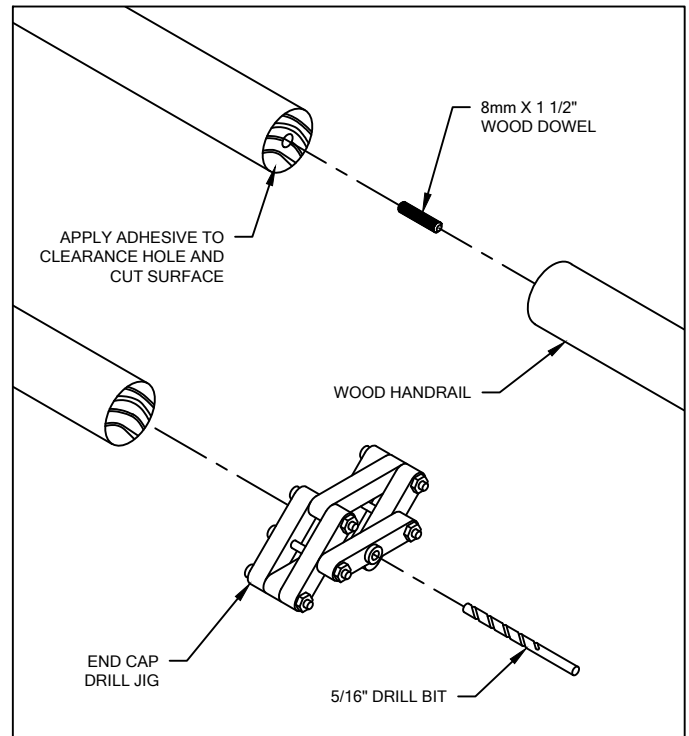

FIGURE 3.
1. TO ENSURE PROPER ALIGNMENT OF HANDRAIL SPLICE, USE THE END CAP DRILL JIG TO DRILL A CLEARANCE HOLE FOR SPLICE ASSEMBLY IN EACH END OF THE HANDRAIL. (SEE FIGURE 3)
2. ASSEMBLE HANDRAIL SPLICE WITH WOOD DOWEL. (SEE FIGURE 3)